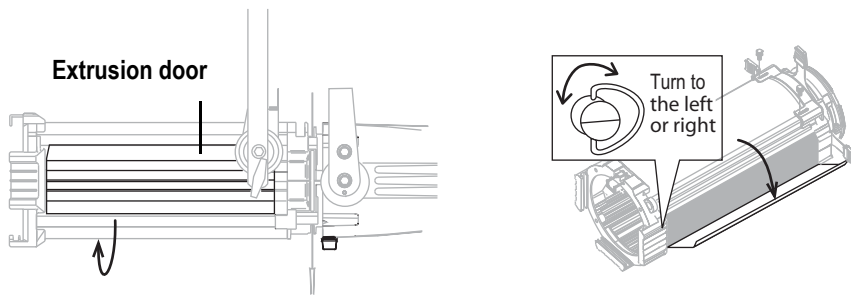

Figure 15
**Note:** *To clean the 15°-30° Zoom, rotate the lens tube to its limit in one direction (approximately 25°) so the extrusion door will clear the balance yoke. See Figure 15.*